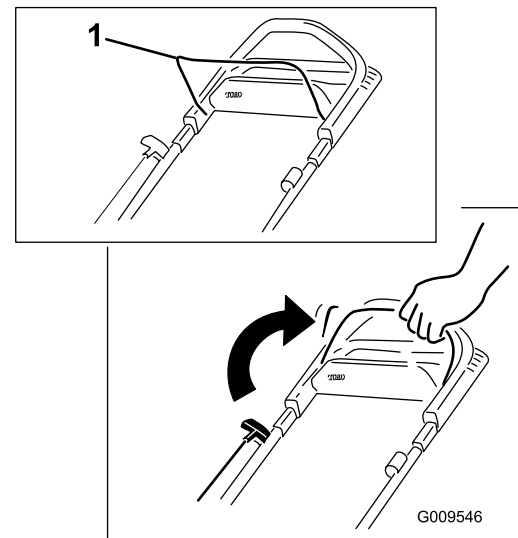

Figure 20
1. Hold the blade-control bar against the handle (Figure 20).